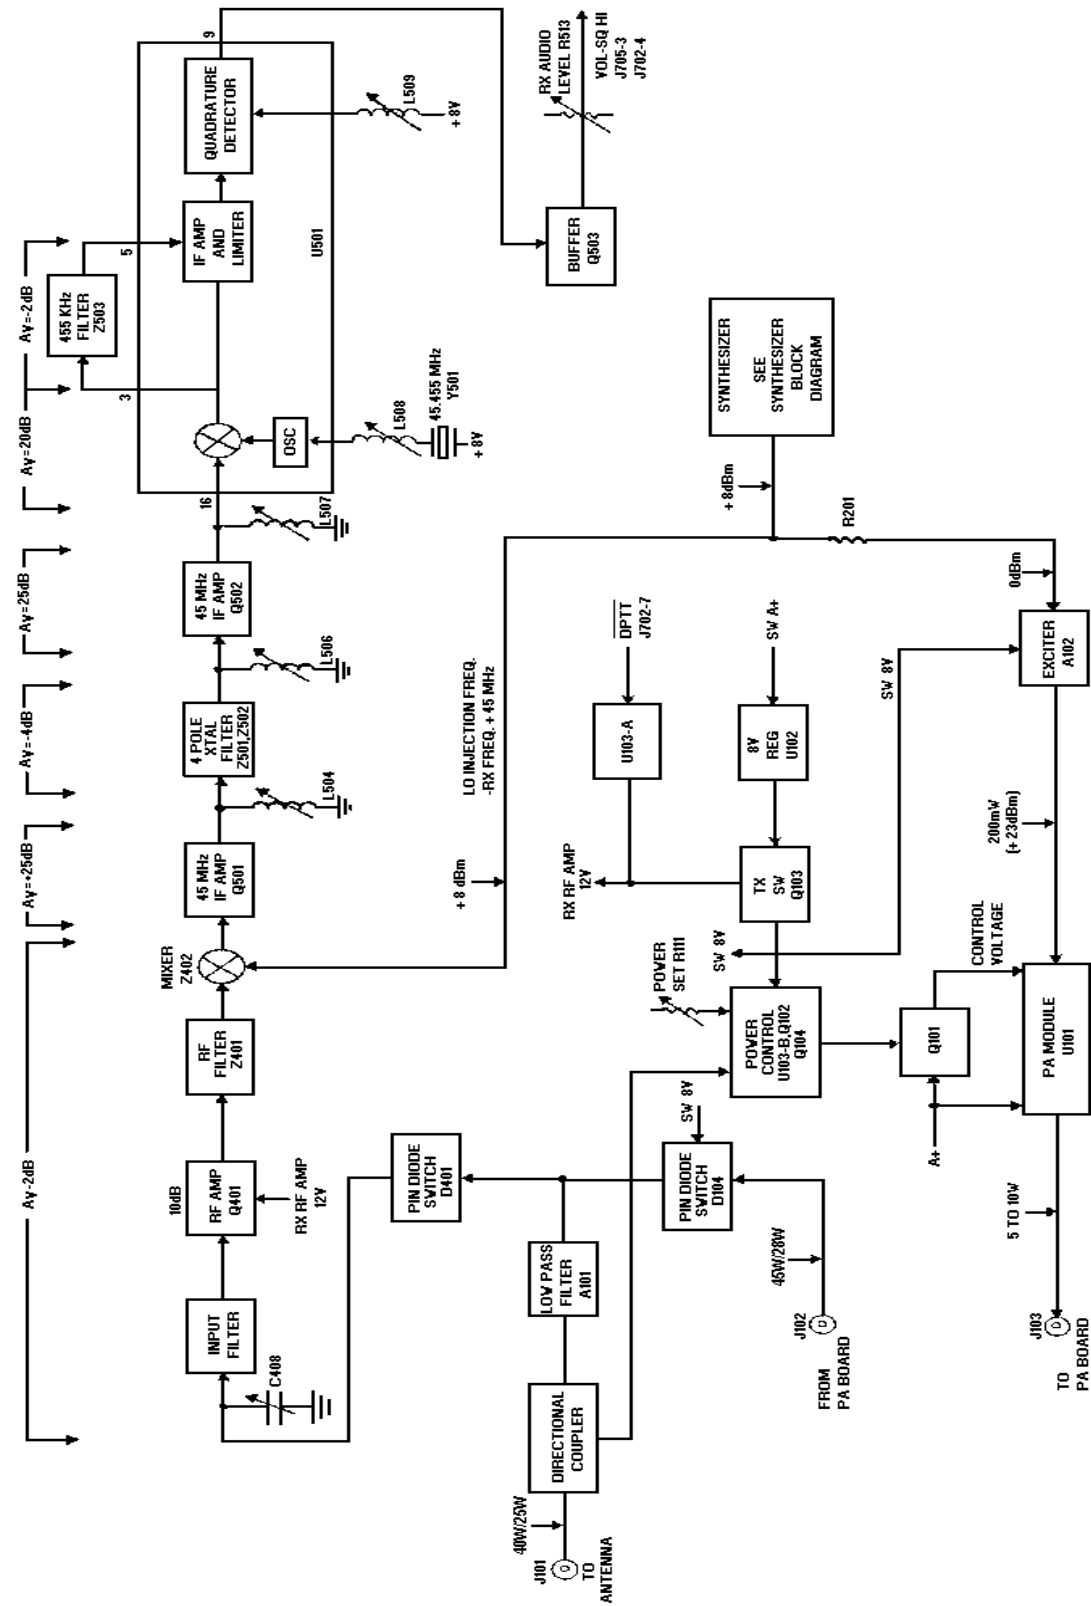
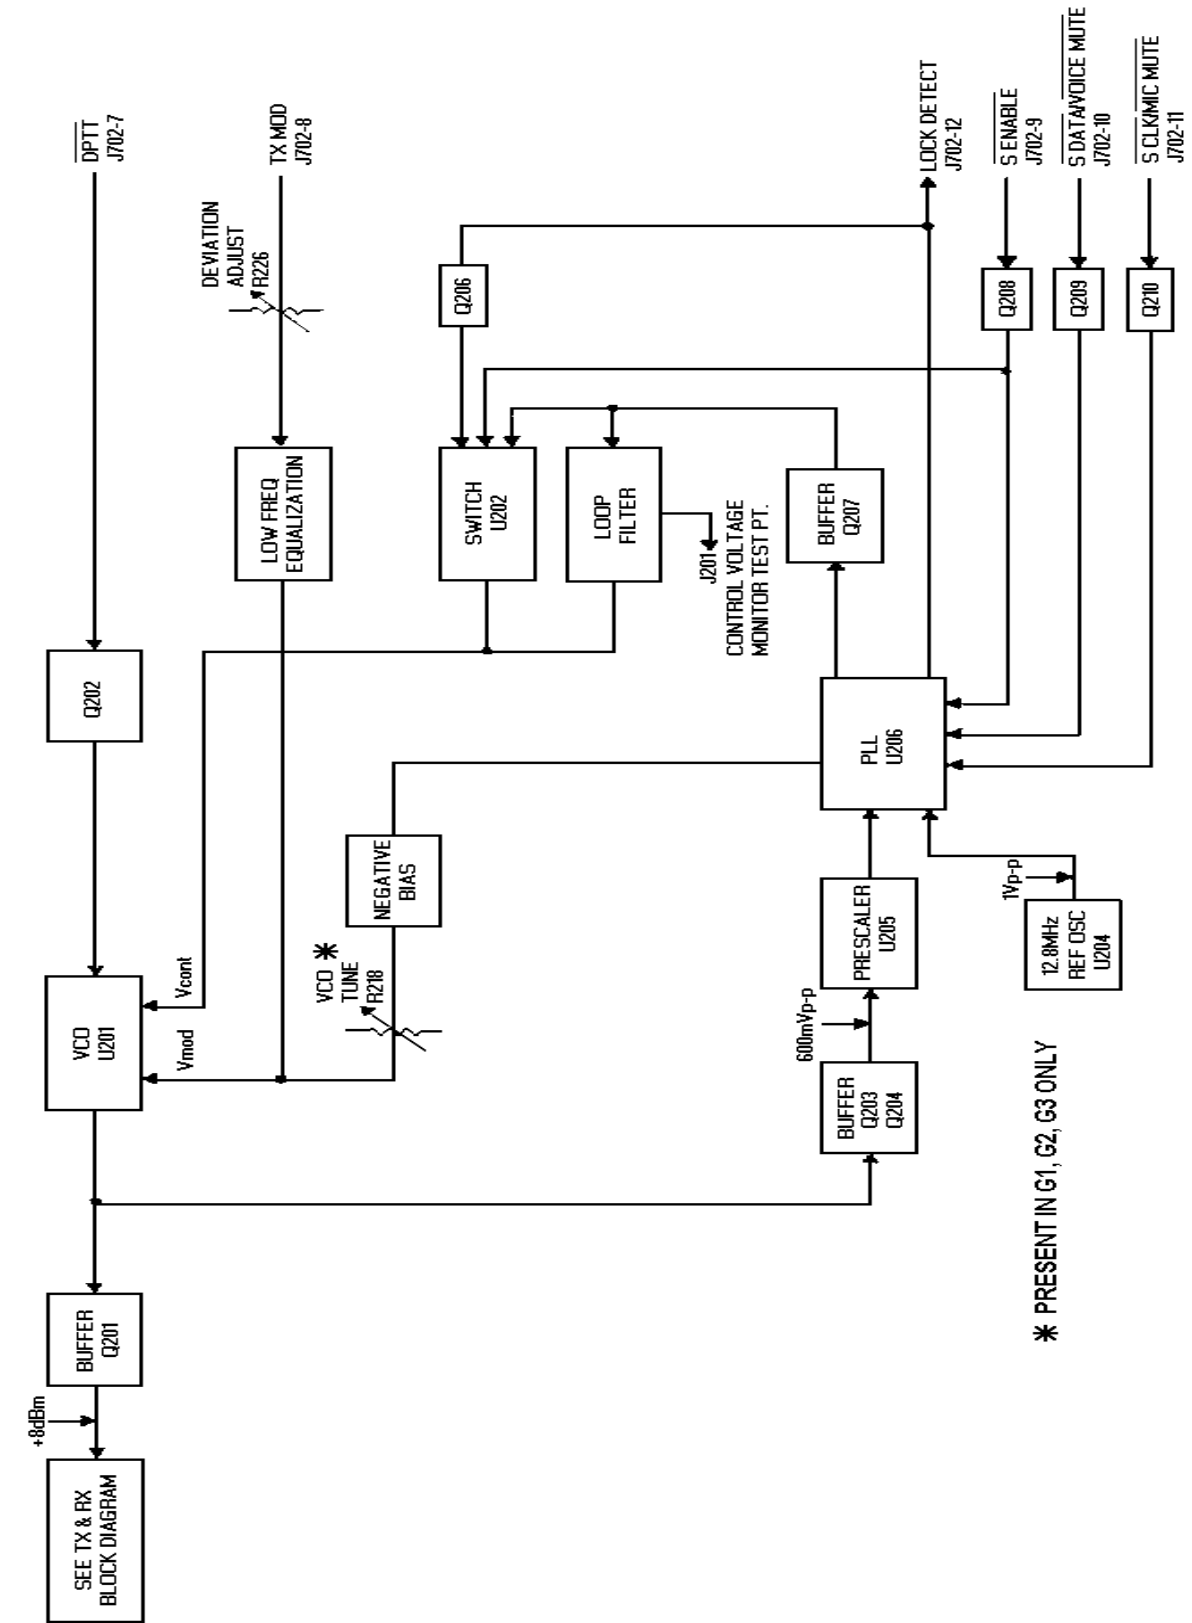

Figure 1 - TX And RX Block Diagram
Figure 2 - Frequency Synthesizer Block Diagram
The RF Board is mounted in the bottom of the frame assembly. Refer to the Combination Manual for the mechanical layout of the radio. Figure 1 provides a block diagram of the receive and transmit circuits. Figure 2 provides a block diagram of the synthesizer.
Figure 1 shows the synthesizer driving the receive mixer at +10 dBm and is attenuated by resistor R202 to +3 dBm for driving the exciter input. Exciter module A102 operates from a switched 8 volt supply. A different exciter module is required for each of the three band splits. No tuning is required . Both input and output ports operate at 50 ohms impedance. The exciter module provides typically 20 dB of gain and 200 mW of output power to drive the power amplifier module.
Most transmit circuit problems can be isolated by checking the TX power gains shown in Figure 1- RX and TX Block Diagram. The PA Board may be bypassed by placing a jumper cable between J103 and J102 on the RF Board. The PA module U101 is capable of producing 10 watt output
• Poor SINAD	1. Consult Figure 1 - RX and TX Block Diagram for RX stage gains and troubleshoot. NOTE: Use a high impedance RF probe when measuring gain at TP401. A 50-ohm probe may be used if C415 is removed. DO NOT adjust Z401 or Z402 without sweep equipment or the 20 MHz sensitivity bandwidth will be sharply reduced. 2. Input cable. 3. PIN Diode switch is shorted.